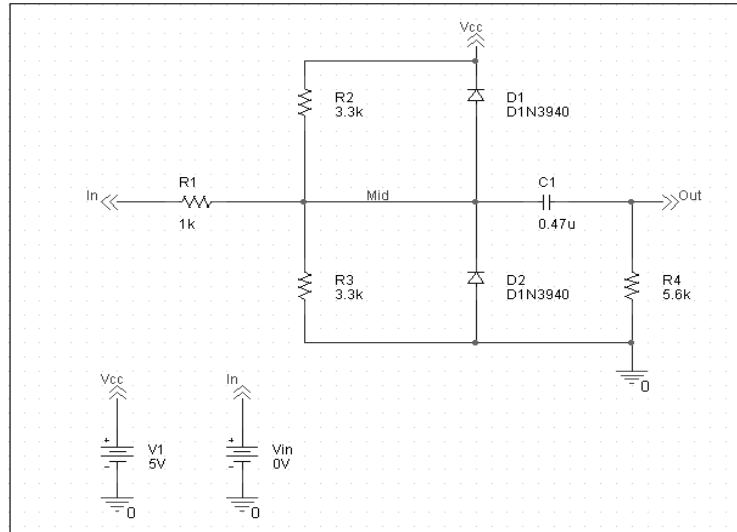

Figure 2 Diode clipper circuit.
This section describes how to use Orcad Capture to create the simple diode clipper circuit shown in Figure 2.
- 6 Move the pointer to the correct position on the schematic page (see Figure 2) and click to place the first part.
- You will change part names and values that do not match those shown in Figure 2 later in this section.
- 3 Follow similar steps as described for the diodes to place the parts listed below, according to Figure 2. The part names you need to type in the Part name text box of the Place Part dialog box are shown in parentheses:
- resistors (R)
- capacitor (C)
- 6 Place the off-page connector parts according to Figure 2.
- 7 To place the ground parts (0), click the GND button on the tool palette.
- 9 Place the '0' ground part from SOURCE .OLB as shown in Figure 2.
- 6 Continue connecting parts until the circuit is wired as shown in Figure 2 on page 2-58.
Label the off-page connectors as shown in Figure 2 on page 2-58.
- 5 Continue naming the remaining parts until your schematic looks like Figure 2 on page 2-58.
- 4 Continue changing the Part Value properties of the parts until all the parts are defined as in Figure 2 on page 2-58.